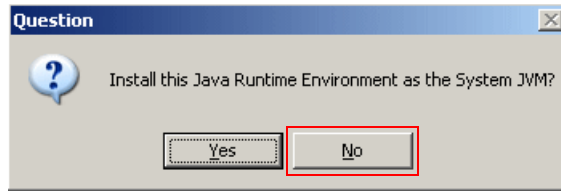

Figure 6-5 JRE as system JVM
4. Click **No** when the installation wizard asks you whether you want to make this JRE the System JVM, as shown in Figure 6-5.